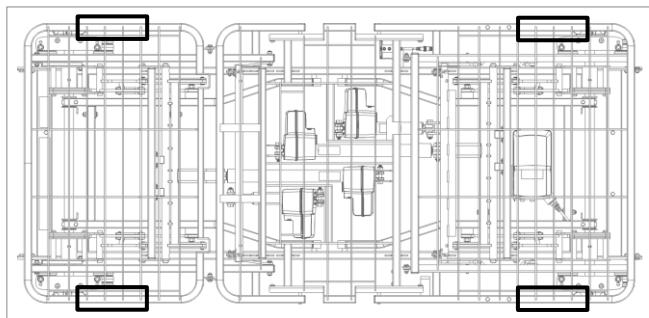
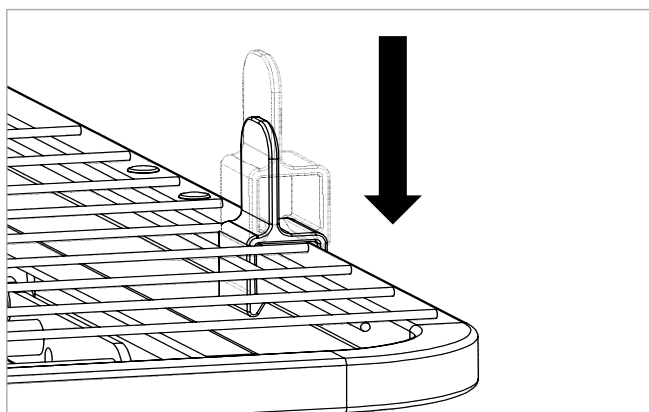
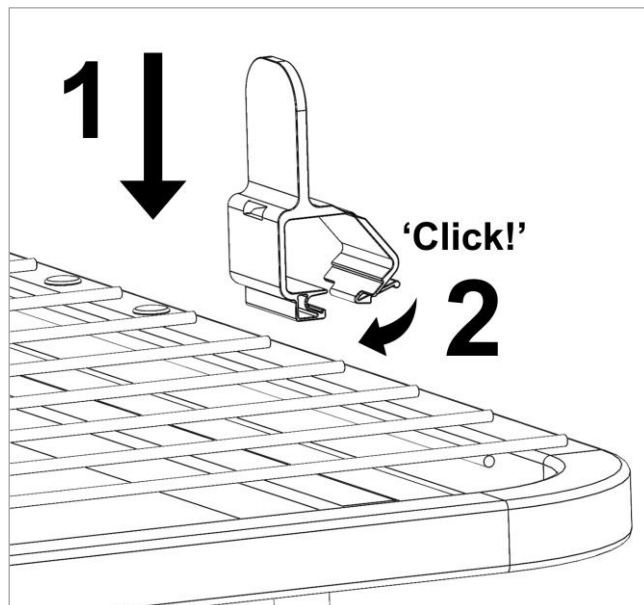

Figure 8.8
Figure 8.9, Open clip type
Figure 8.10, Closed clip type
16. Install the four mattress guides as shown in Figure 8.9 (open clip type) or Figure 8.10 (closed clip type), noting the orientation and in the locations shown in Figure 8.8. They may be fitted in any position within the locations shown.